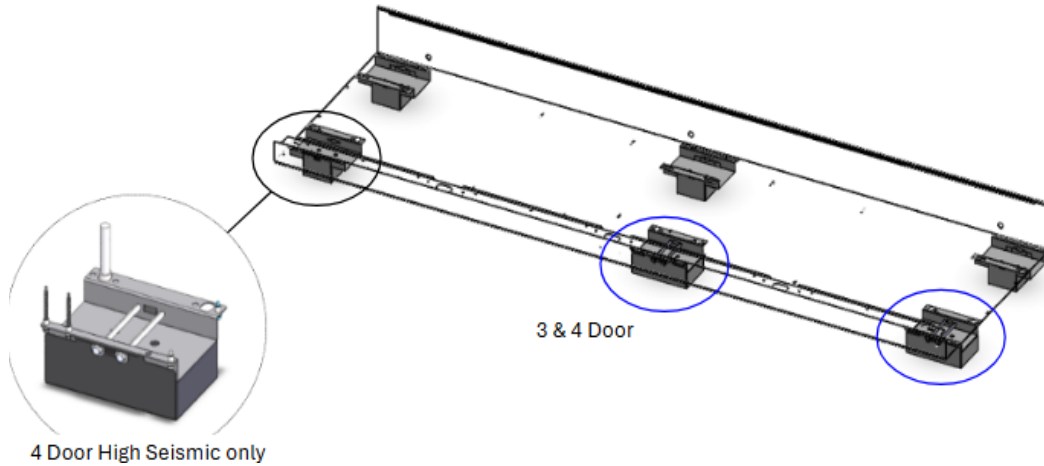

FIGURE 27: Expansion Base Assembly 5- and 6-Door
3. Place the Seismic Expansion Base beneath the installed base, ensuring it is oriented flush and aligned at the right end (**See Figure 25, Figure 26, and Figure 27**).